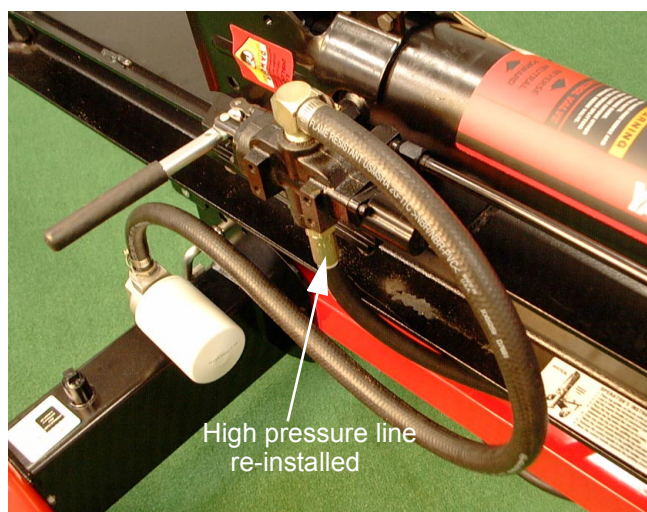

Figure 5
- Install the high pressure hydraulic hose in the inlet port of the control valve using a 1-1/16" wrench and channel locks. See Figure 5.